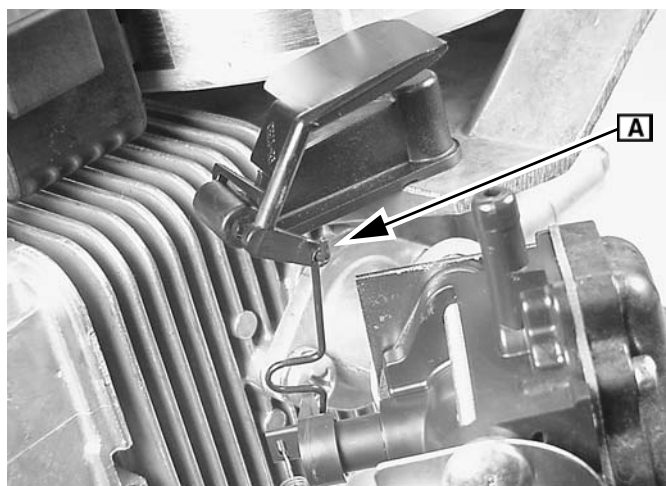

Fig. 78
2. Assemble governor link to lever on air vane from the back side as shown (**A** Figure 78).